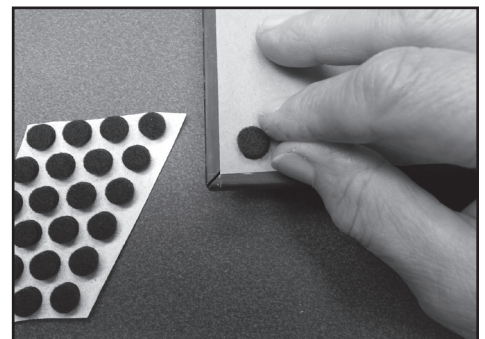

Fig.5
5. Crease paper along the edges of frames **(Fig. 5)**
For a nice finishing touch, attach self-adhesive bumper pads to bottom corners on the back of your frame. These will prevent the frame from scratching the wall, allow air circulation behind the frame to help prevent any condensation and allow some light behind the frame to help prevent fading of wall paint color. (**Fig. 5**)